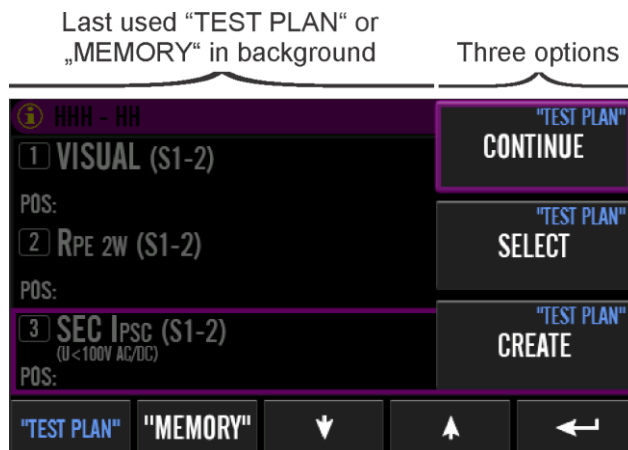

Figure 142. AUTO start screen i.e. last used “TEST PLAN” or “MEMORY” with three options, example
- If needed, press “∞” menu key in above case to turn back to AUTO start screen, see the figure 142 on page 152 above.